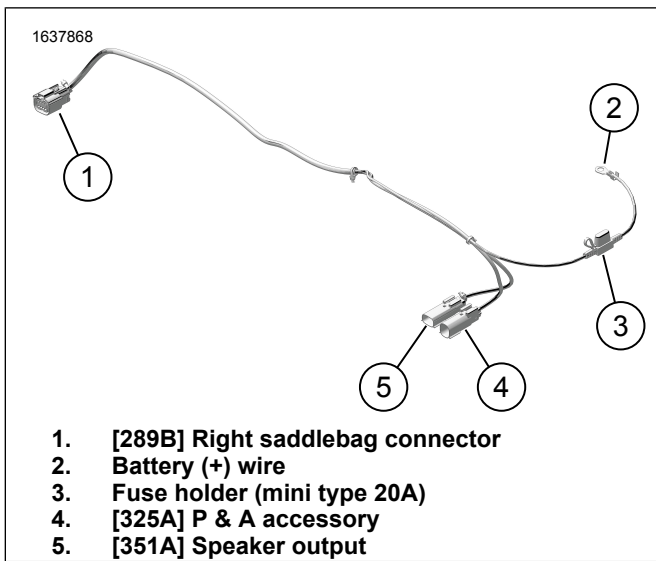
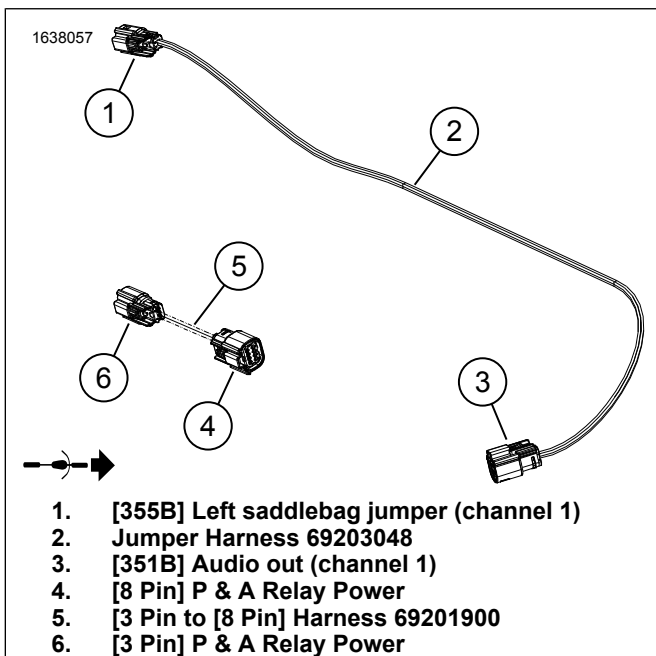

Figure 15. External Harness 69202870
Figure 16. Jumper Harnesses
1. Figure 15 Connect battery (+) wire (2) to battery (+) terminal. See service manual.
- a. Figure 15 Route [325A] (4) to left side of vehicle frame.
- b. Figure 16 Connect [3-Pin] (6) of jumper harness (5) to [325A] (4) of external harness 69202870. Figure 15
- c. Figure 16 Connect [8-Pin] (4) of jumper harness (5) to vehicle P & A connector [4]. Located under left side cover area.
- a. Route [325A] (4) along right side of vehicle frame.
- b. Figure 15 Connect [325A] to P & A connector [325B]. Located under right side cover area.
4. Figure 15 Route branch [289B] (1) of external harness along frame and fender strut support. Using cable straps, loosely install harness to anchor points. Do not tighten cable straps.
8. Figure 16 Route and install jumper harness 69203048 (2).
- a. Figure 16 Connect [355B] (1) of jumper harness (2) to left saddlebag speaker harness (5). Figure 4
- c. Figure 16 Route [351B] (3) on jumper harness 69203048 (2) toward [351A] (5) on external harness 69202870. Figure 15
10. Figure 1 Install 20 amp fuse (18) into external harness fuse holder (3). Figure 15
- a. Connect [360LA] to Left (L).
- b. Connect [360RA] to Right (R).
4. Figure 15 Connect to [351A] (5).